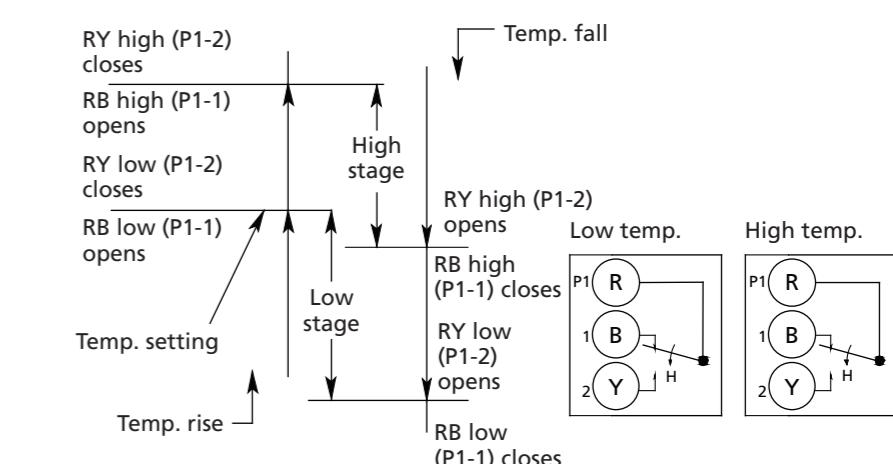

Figure 8 – Operational Sequence of Two-stage SPDT/SPDT Thermostats
Figure 8 illustrates the operation of thermostats with SPDT/SPDT 2 Stage switching. On a temperature increase to the knob setting, the circuit between R (P1) and Y (2) of the low stage switch (RYL) closes. Simultaneously the circuit between R (P1) and B (1) (RBL) opens.